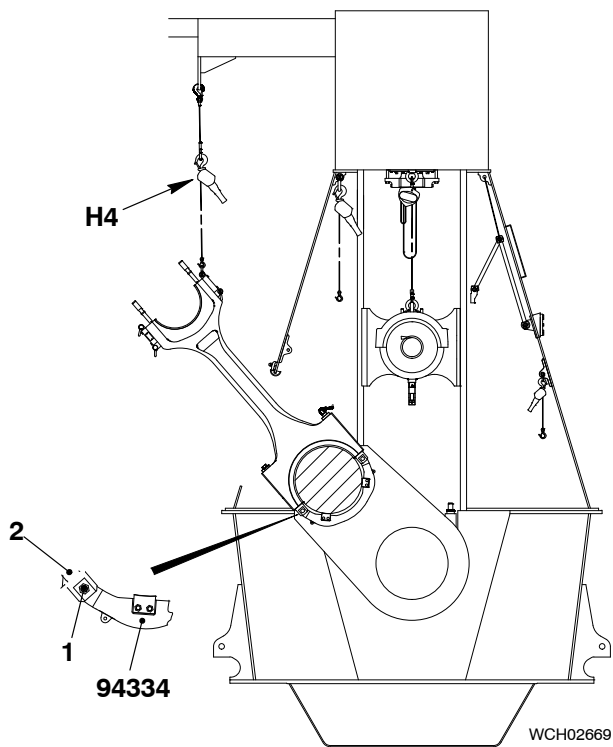

Fig. 13
- 16) Attach the bottom end of the holder (94334, Fig. 13) to the bottom rod (2)
- 17) Lock the holder and the bottom rod (2) with the nut and bolt (1).